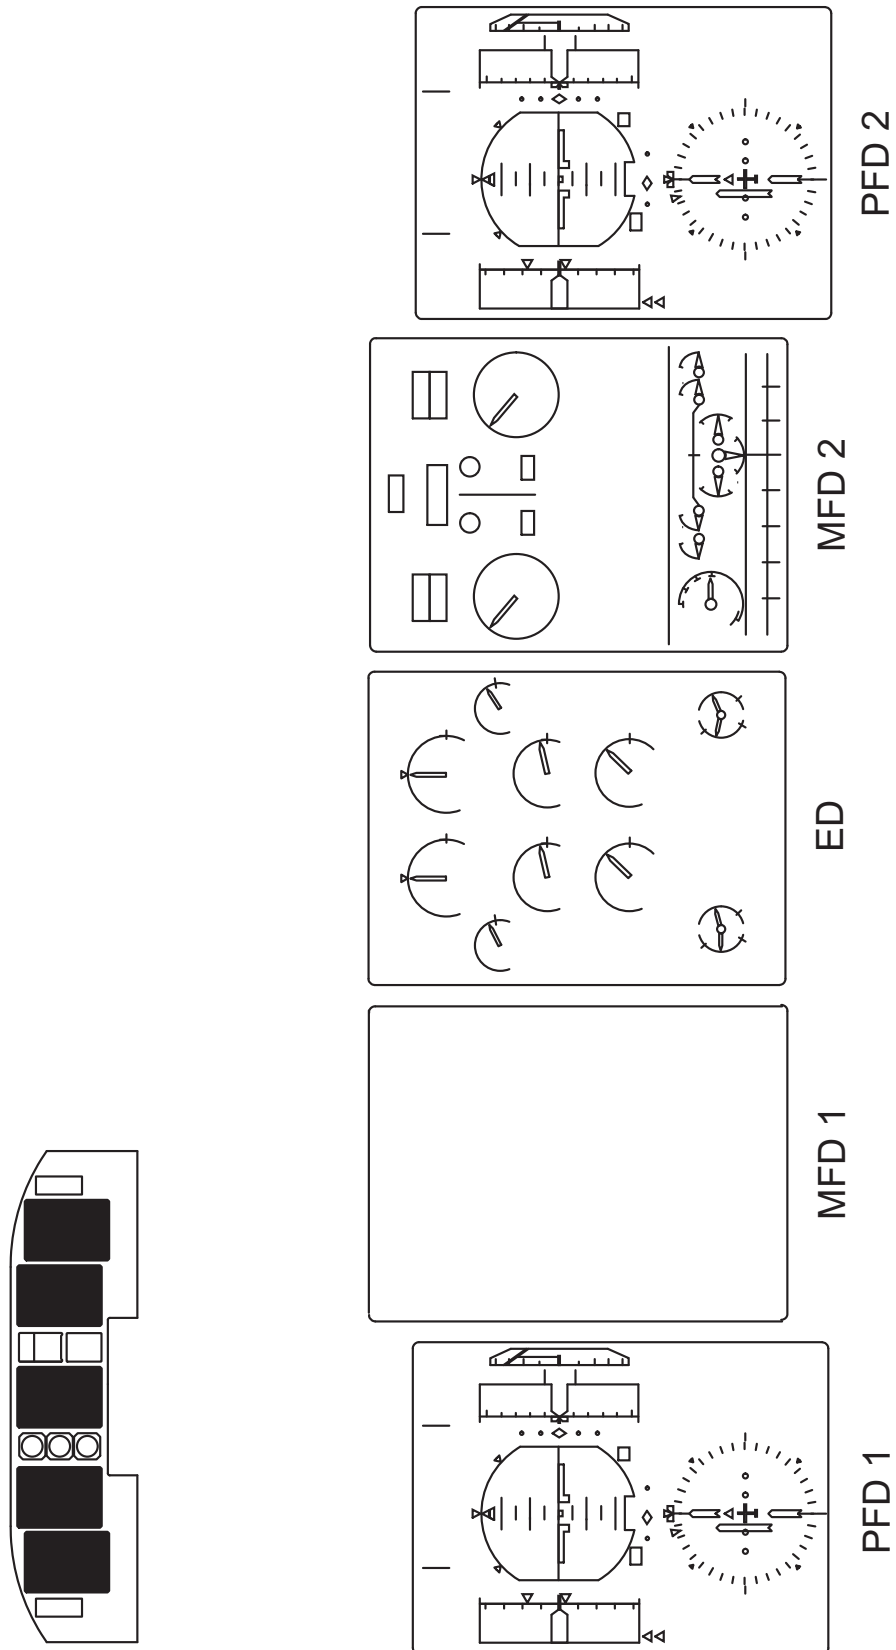

Figure 12.12-42 MFD1 Failed, MFD 2 Selected to FUEL Page (Composite)
- FUEL (Figure 12.12-42, 12.12-43)
When only one MFD is available for the display of the NAV or SYS pages, a composite image (Figure 12.12-42, 12.12-43) showing all permanent system data is displayed on the remaining MFD.